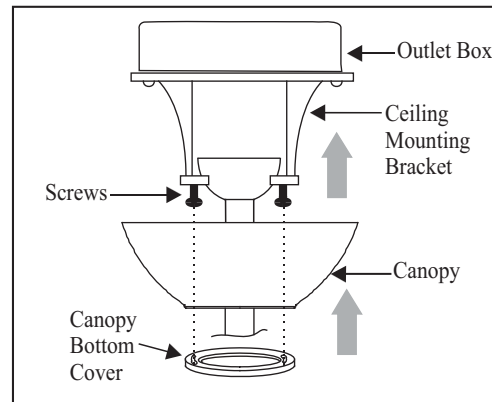

Figure 15
2. Slide the canopy up to ceiling and over the 2 screws on the hanger bracket. Rotate canopy clockwise. Next, while holding the canopy with one hand, slide the canopy cover over the screws and rotate clockwise until tight. **Note:** adjust the canopy screws as necessary until the canopy and canopy cover are snug. (Fig. 15)